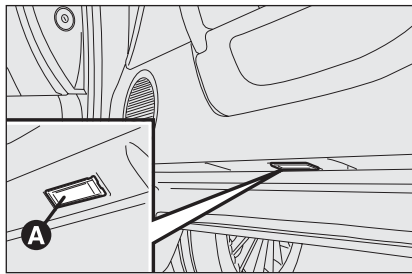
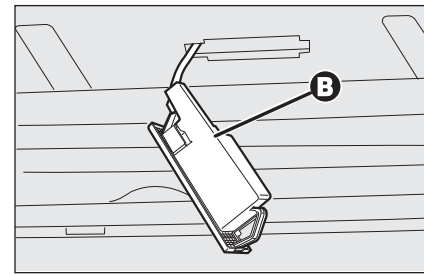

fig. 44
fig. 45
- open the door and remove lens **A-fig. 44** levering in the point shown by the arrow;
- raise protection **B-fig. 45** and replace the snap-fitted bulb;
- close protection **B-fig. 45** on light unit **A-fig. 44**;